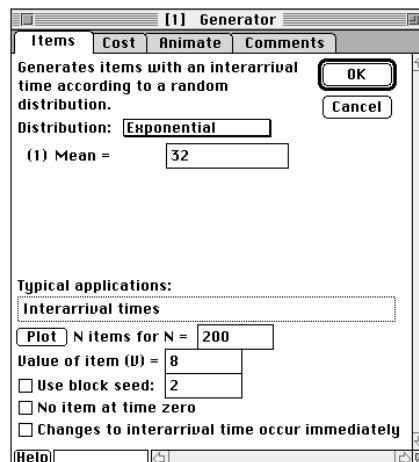

Figure 13: New arrival times and value (Macintosh)
Open the Generator block and change the mean arrival times and Value of item (V), as shown in Figure 13.